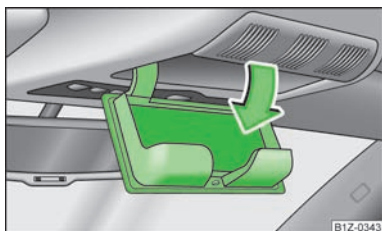

Fig. 75
- Press on the cover of the glasses storage box, the compartment folds down » Fig. 75.